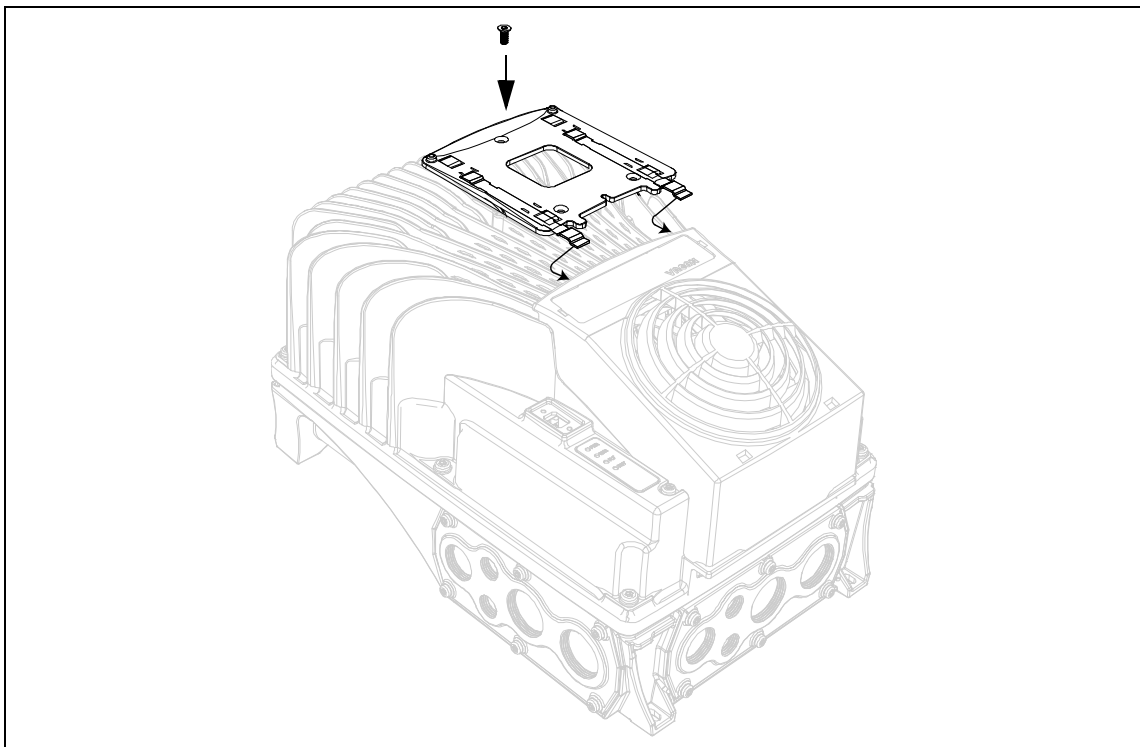

Figure 44. Installation of the keypad holder on the powerhead.
- Install the keypad holder with a screw as shown in the Figure 44. *The metal sheets of the keypad holder have to be mounted under the fan holder as shown in the following figures.*